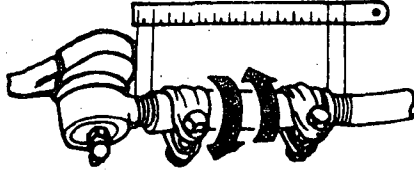

Fig. 1
- a) Replace the steering ends and leave them centred (fig. 1).